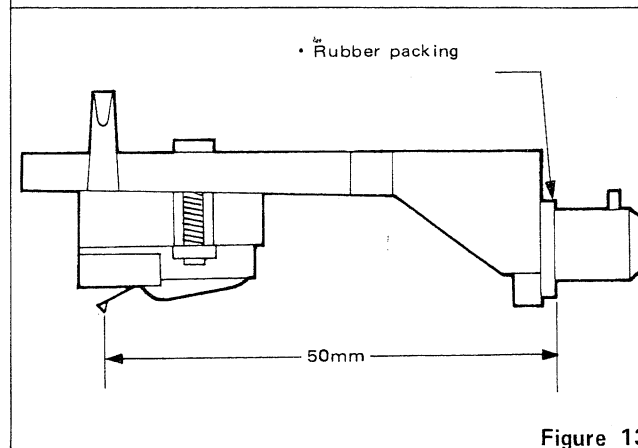

Figure 13
① Left hot tip (White)
② Left earth (Blue)
③ Right hot tip (Red)
④ Right earth (Green)
3. Make the distance 50 mm from the stylus end to the rubber packing on the head-shell. (Refer to figure 13)